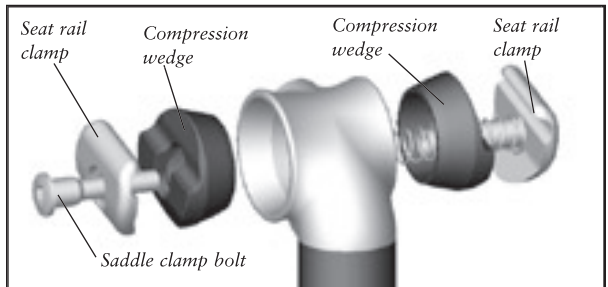

Figure 4- Exploded view of saddle clamp
1. Loosen the saddle clamp bolt (Figure 4).